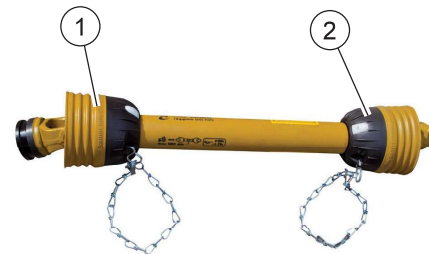

FIG. 19
- Guards on the PTO shaft tractor side (1, "Fig. 19") and machine side (2) including the restraining chains.